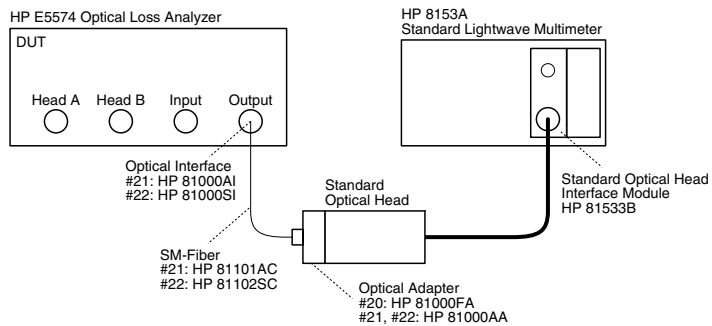

Figure D-2
- a** Connect the equipment as shown in Figure D-2.